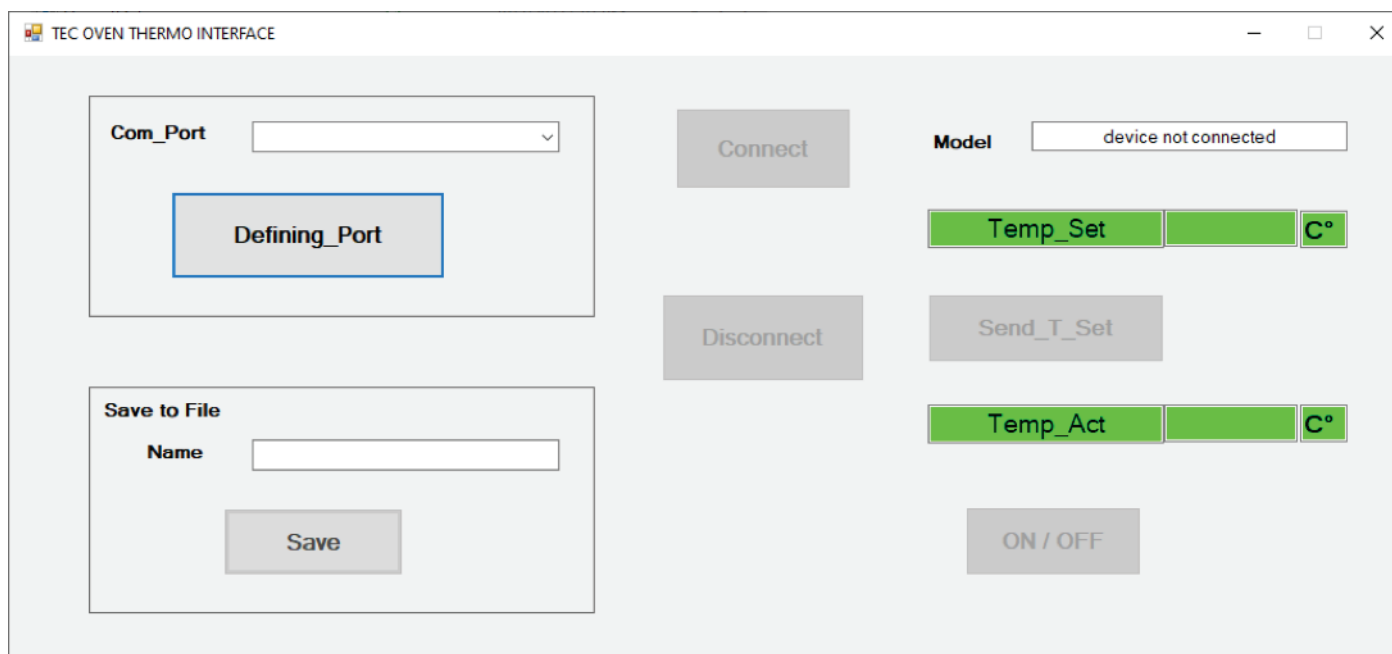

FIGURE 4. User Interface Software
- Double click on **TEC OVEN INTERFACE** open user software communication (figure 4)
- You must press OK button in this message, while the message **'Missing port'** appears in the **Com_Port** window, and the **Model, Temp_Set,Temp_Act** windows are cleared. (See figure 4)